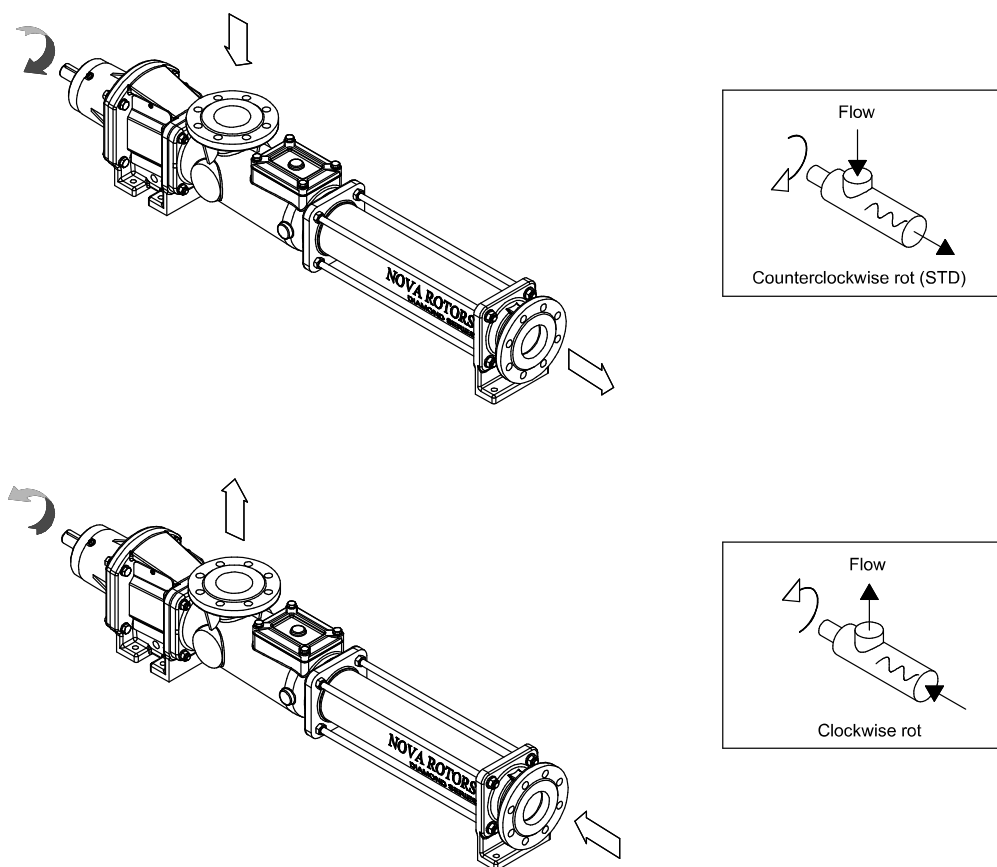

Fig.11 – Pump rotation direction
The rotation direction determines the fluid flow direction (**Fig.11**).
- check the fluid flow direction **Fig.11**;